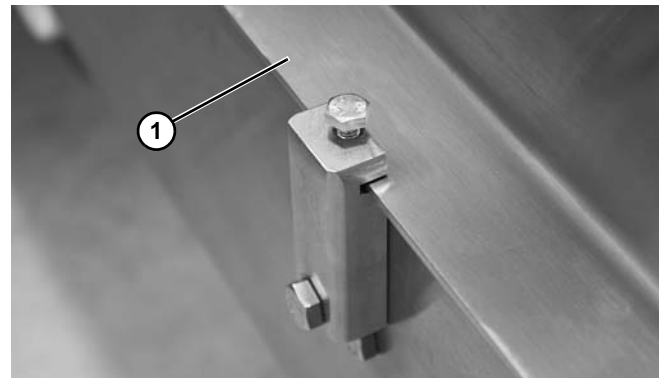

Figure 36
1. Remove guides (Figure 36, item 1) when required.